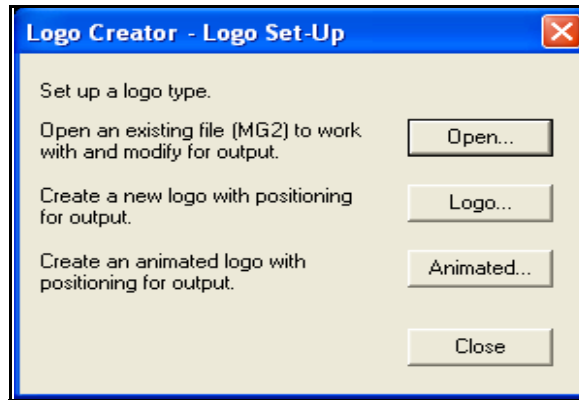

Figure 3-23 LogoCreator Setup Dialog Box
- 2 Open the **Logo Set-Up** dialog box (Figure 3-23 below).